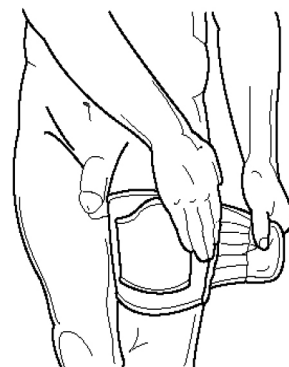

Fig. 5-2 Attaching the Leg Strap
2. Wrap the leg strap (supplied in the carrying case) around the thigh of either leg, with the opening pointing toward the patient's penis (see Figure 5-2). If the patient sleeps on his left side, you should attach the RigiScan Plus Monitor and strap to the left thigh. If he sleeps on his right side, you should attach the RigiScan Plus Monitor and strap to the right thigh. The strap should be comfortably snug.